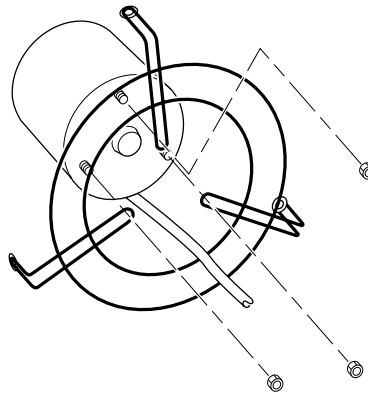

Figure 9 - Removing or Attaching Fan Guard from Motor
5. Remove three nuts that attach fan guard to motor using nut-driver. Remove fan guard from motor (See Figure 9).
7. Attach fan guard to new motor using three nuts. When attaching fan guard to motor, you must position power cord as shown in Figure 9. Tighten nuts firmly.